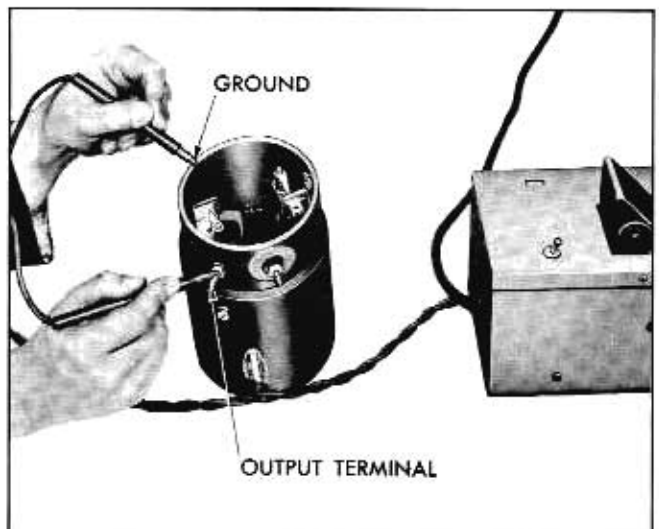

Fig. 11-13 Testing Positive Terminal for Ground
f. Using a 110-volt test lamp, place one lead on generator positive (or output) terminal on generator frame, and place other lead on ground (touch to generator frame, Fig. 11-13). Be sure loose end of terminal lead is not touching ground. If lamp lights, positive terminal insulation through generator frame is broken down and must be replaced.